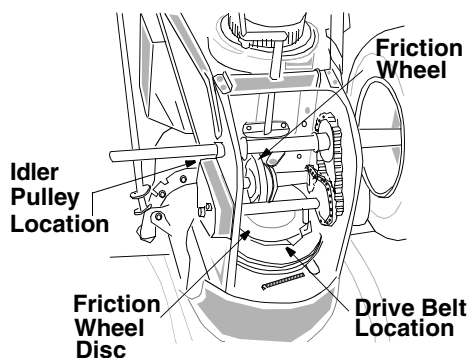

Figure 31
- With the traction drive clutch engaged, the friction wheel must contact the drive plate (shown in Figure 31).
- Working from the underside of the frame, slip belt between the friction wheel and the friction wheel disc. See Figure 31. You may have to twist the belt flat in order to slide it through the clearance between the friction wheel and the friction wheel disc. Remove the belt.